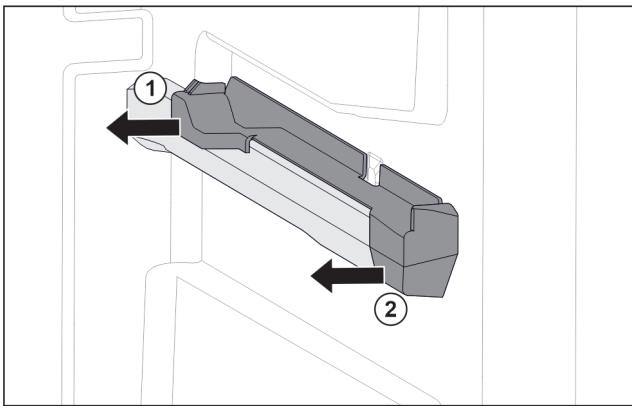

Fig. 113 Attachment on the right moulded rib
- ▶ Pull off attachment at the back sideways. Fig. 113 (1)
- ▶ Pull off attachment at the front sideways. Fig. 113 (2)